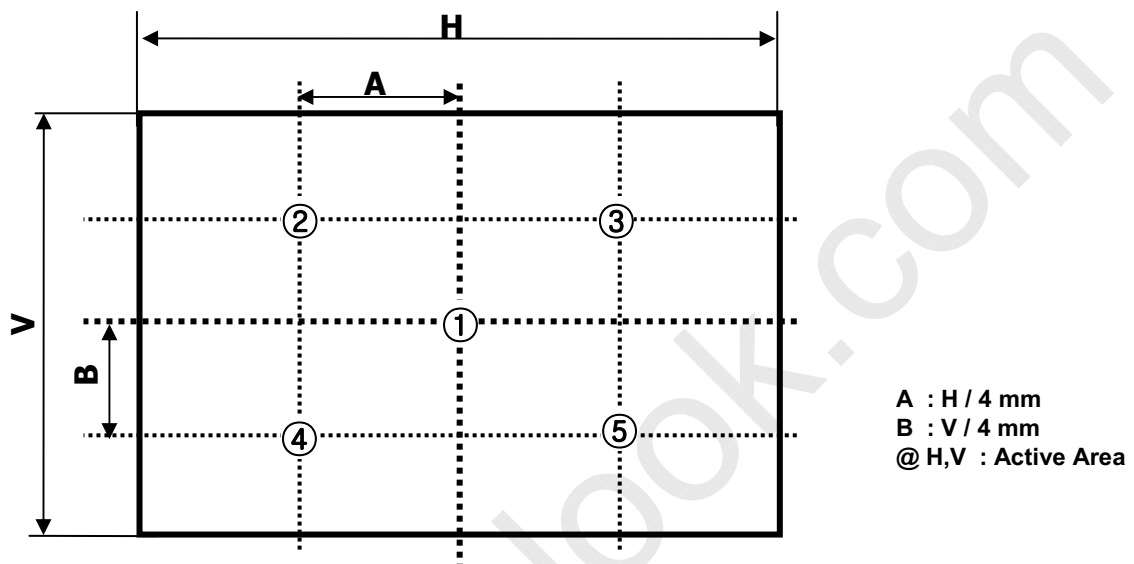

FIG. 2 5 Points for Luminance Measure
n = the Position number(1, 2, 3, 4, 5). For more information, see FIG. 2.
2. Surface luminance are determined after the unit has been 'ON' and 60min after lighting the backlight in a dark environment at $25 \pm 2^\circ\text{C}$. Surface luminance is the luminance value at center 1-point across the LCD surface 50cm from the surface with all pixels displaying white. For more information see the FIG. 2.
For more information, see the FIG. 2.